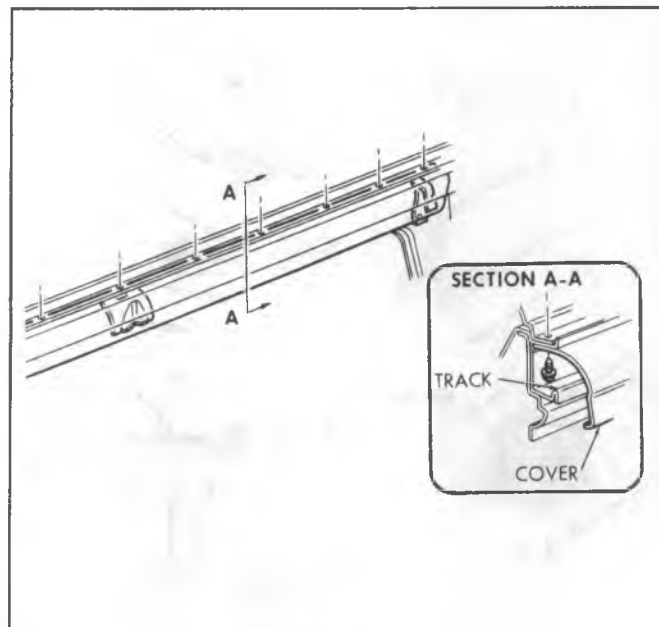

Fig. 2D-127--Rear Track Cover
1. Remove the hinge cover and rear track cover. See figures 2D-122 and 2D-127.